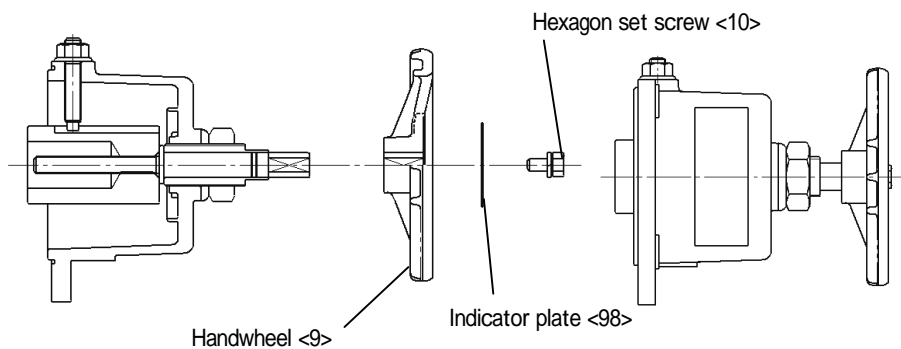

Fig.31
(8) Mount the handwheel and the indicator plate on top of the spindle, and tighten them with a hexagon set screw lubricated with LOCKTITE No.262 or the equivalent (**Fig.31**).